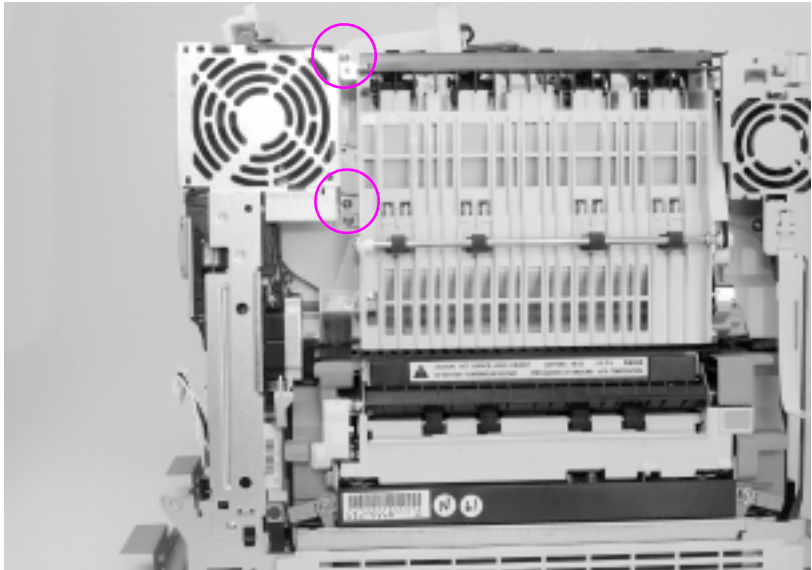

Figure 6-53 Right side fan removal and replacement (1 of 2)
- 2 Remove the four screws as shown in Figures 6-53 and 6-54, and remove the fan shield.